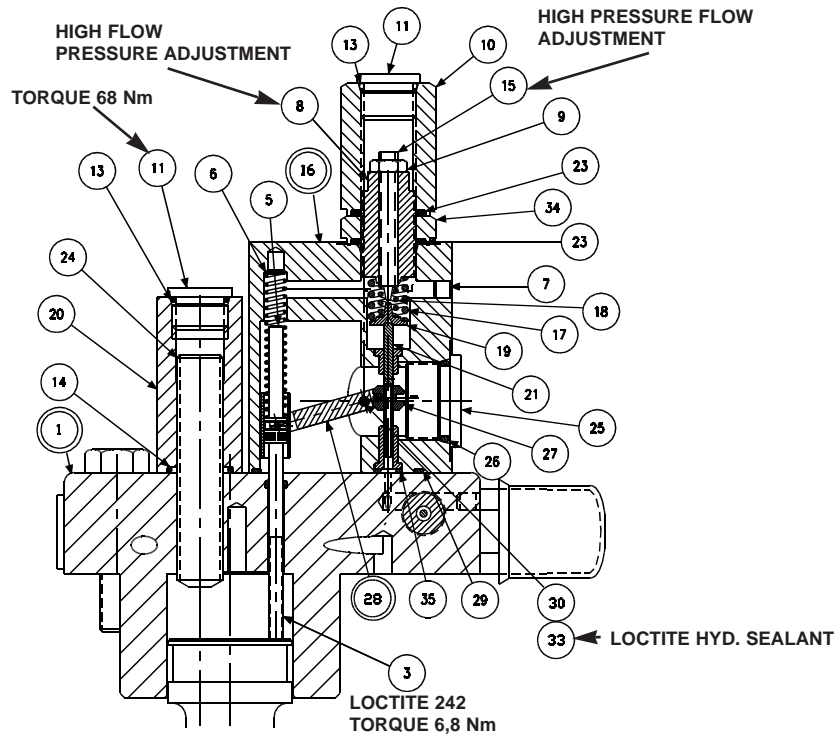
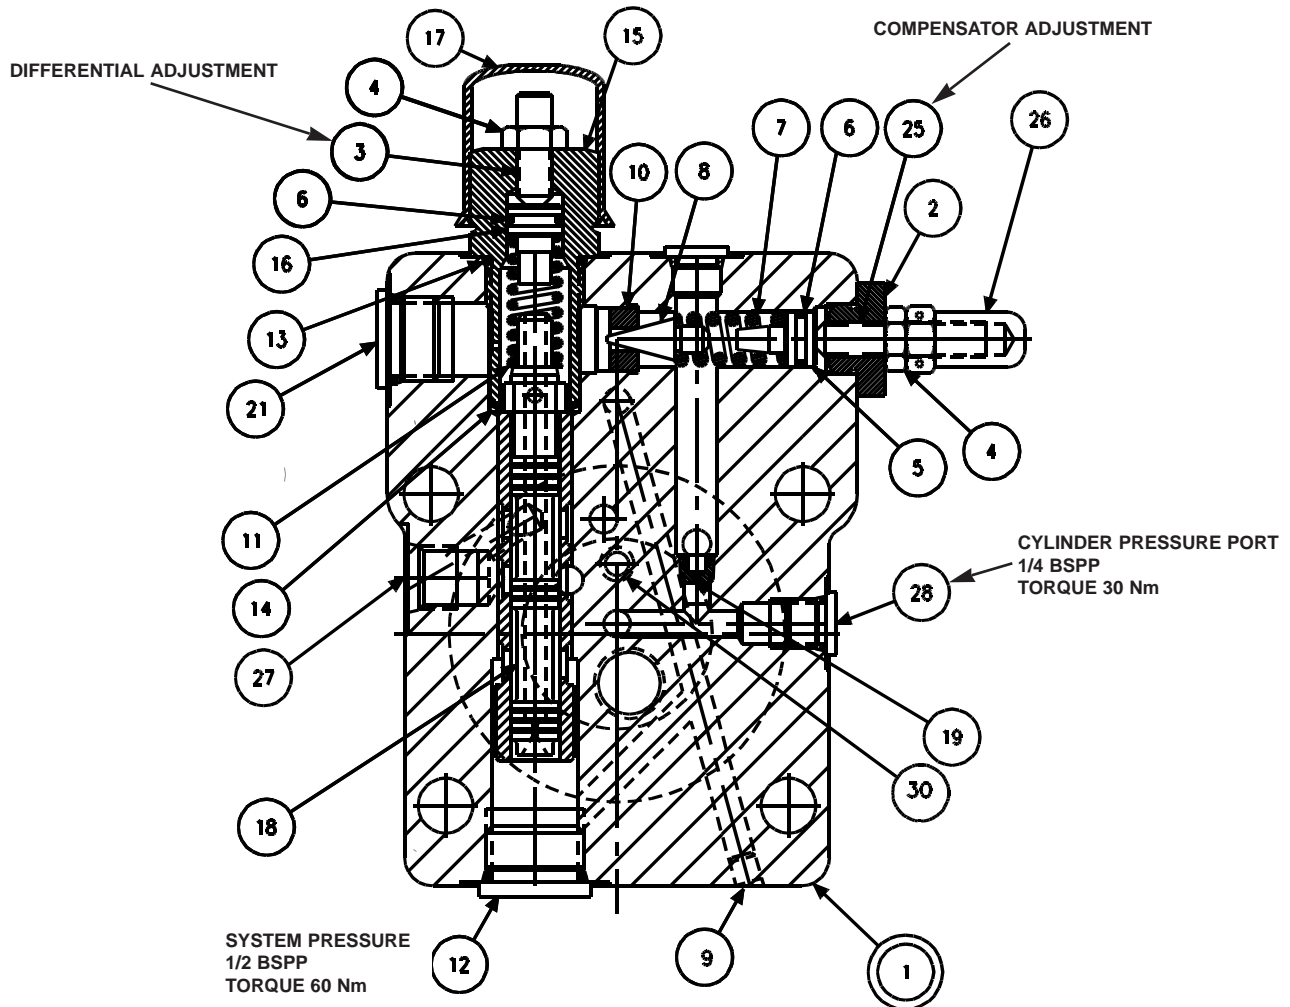

FIGURE 8
FIGURE 9
1. **See figure 8.** Remove 2 screws holding torque limiter body (16) to cap assembly (1).
2. Remove all parts from torque limiter body (16) except pin (30) and arm assembly (28). It is not necessary to remove these parts unless broken or worn. Examine parts for wear or damage.
3. Remove screw (3). Examine head for excessive wear, and body for smooth sealing surface with O-ring.
4. Remove maximum volume stop assembly (items 11, 13, 14, 20 and 24).
5. Remove cap assembly (1).
6. See fig. 9. Remove plug (15) and attached parts. Remove spring (11) and spool (18).
7. Remove adjusting plug (2) and attached parts. Remove seal piston (5). Note: a 10-24 screw may be attached to assist in pulling the piston. Remove spring (7) and cone (8).
8. Do not remove sleeve in body (1). Sleeve is pressed into cap and finished to size. If sleeve, snout or cap is worn, replace the cap-sleeve assembly (1).
9. Examine seat (10) for wear. Do not remove unless damaged.
1. **See figure 9.** Install Avseal plugs (9) and orifice (19).
2. Press seat (10) into bore squarely against shoulder in bore.
3. Install spool (18) into bore as shown. Install spring (11) over end of spool. Install O-ring (6) on seal piston (16). Lubricate and install into plug (15). Install O-ring (14) in bottom of bore as shown. Install O-ring (13) on plug (15). Install plug (15) into cap. Install screw (3) and nut (4).
4. Install O-ring (6) on seal piston (5).
5. Lubricate O-ring and install cone (8), spring (7) and seal piston into bore in cap (1), being careful that cone enters seat (10). Install adj. plug (2), screw (25), nut (4), and acorn nut (26).
6. Install plug (12) and torque to 60 Nm. Install plug (21). Torque to 35 Nm.
7. Carefully install O-ring (30) into the cap.
9. **See figure 8.** Install maximum stop screw (24), cover (20), O-ring (14) and plug (11) with O-ring (13).
10. Apply Loctite 242 on threads of screw (3), lubricate the shank, thread through the cap into the control piston, and torque to 6,78 Nm.
12. Press dowel (30) into body (16), through the link assembly (28), to 6,35 mm below surface. Apply Loctite hydraulic sealant[®] to threads of screws (33) and install over dowel (30).
13. While sleeve (27) is engaged into dowel on link (28), slide spool (21) into bore of body (16), and through sleeve (27). Spool (21) must move freely and easily at all positions of the link (28).
14. Assemble remaining parts per drawing. Torque plugs (11) to 68 Nm.
15. While spring retainer is engaging clevis pin (5) under dowel of link (28), slide the other opening of spring retainer over the top of the screw (3). Attach body assembly (16) to cap (1) and torque assembly screws to 102 Nm.
PARTS LIST FOR FIGURE 8
PARTS LIST FOR FIGURE 9,
5. For setting and testing compensator override function, disable torque limiter in this manner: Back out primary adjusting screw (15) figure 8, to remove all load. Turn in outer adjusting screw (8) to go solid. Caution! do not apply over 1,2 Nm torque to avoid damage to internal parts!